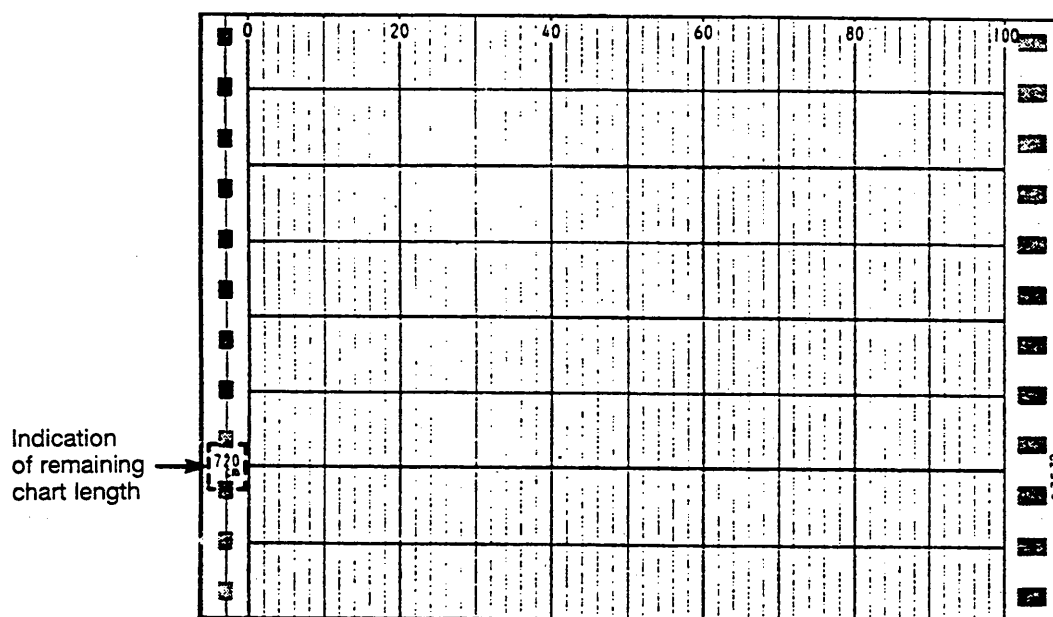

Figure 9-1. Indication of Remaining Chart Length
- Is there enough chart paper left? The remaining chart paper length is printed on the chart's left-side margin at intervals of 20 cm. (See Figure 9-1.) For replacement of the chart paper, see Section 3.